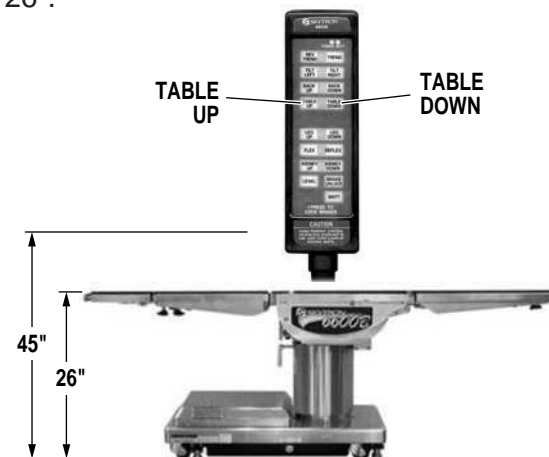

Figure 3-7. Elevation Function
e. Elevation. To raise table top, press the TABLE UP button (figure 3-7). The table will lift a patient weight of 1,000 pounds up to a maximum height of 45" (49" with X-Ray top and 2" pad). To lower the table top, press the TABLE DOWN button. The table top will go down to a minimum height of 26".